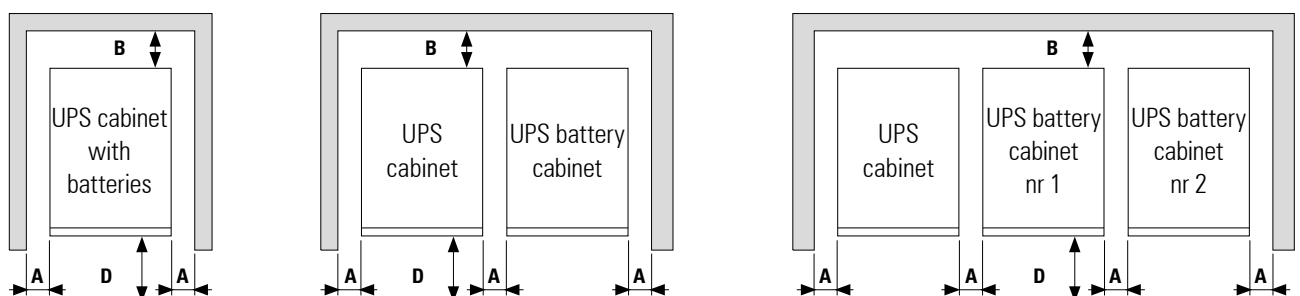

Fig. 31. Minimum peripheral dimension lines for UPS cooling.
- As i.e. Fig. 31 shows 4 equipments in parallel with their respective battery cabinet. For systems with less units act in each case accordingly.